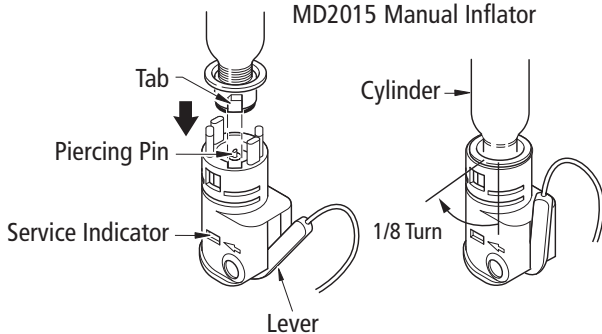

FIGURE 8 CYLINDER INSTALLATION
4. Raise, and hold, the lever into the inflator housing. Install a new cylinder/bayonet assembly by engaging bayonet tabs in housing, pushing in then turning clockwise 1/8 turn to a full stop (Fig. 8).
5. Examine the service indicator (Fig. 8) and ensure it is GREEN. If the service indicator is red, the mechanism has been fired or is incorrectly fitted and the inflator requires service.